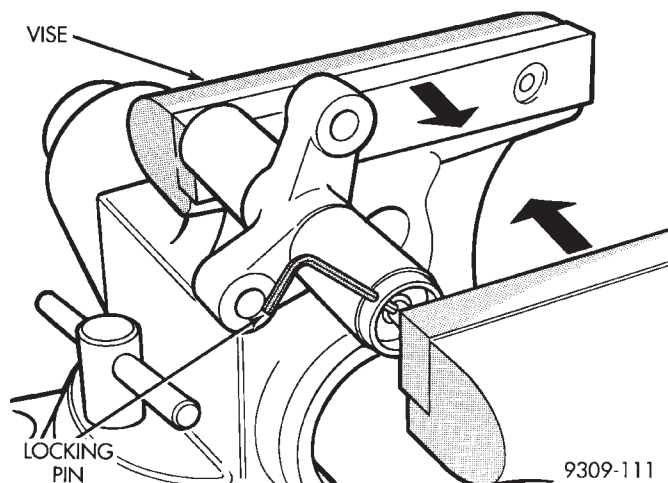

Fig. 68 Compressing Timing Belt Tensioner INSTALLATION
(4) When tensioner is removed from the engine it is necessary to compress the plunger into the tensioner body.
(5) Place the tensioner into a vise and slowly compress the plunger (Fig. 68).